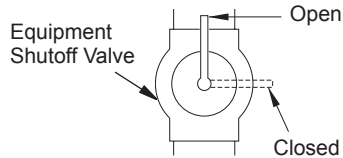

Figure 18 - Equipment Shutoff Valve
1. Close equipment shutoff valve (see Figure 18).
1. Open equipment shutoff valve (see Figure 18).